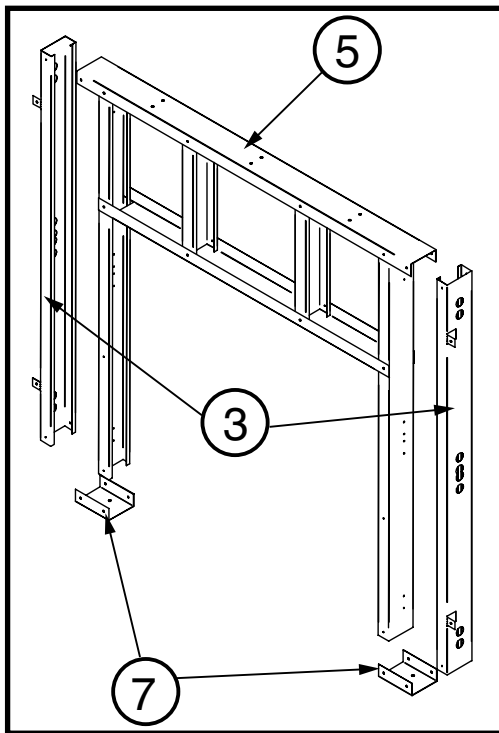
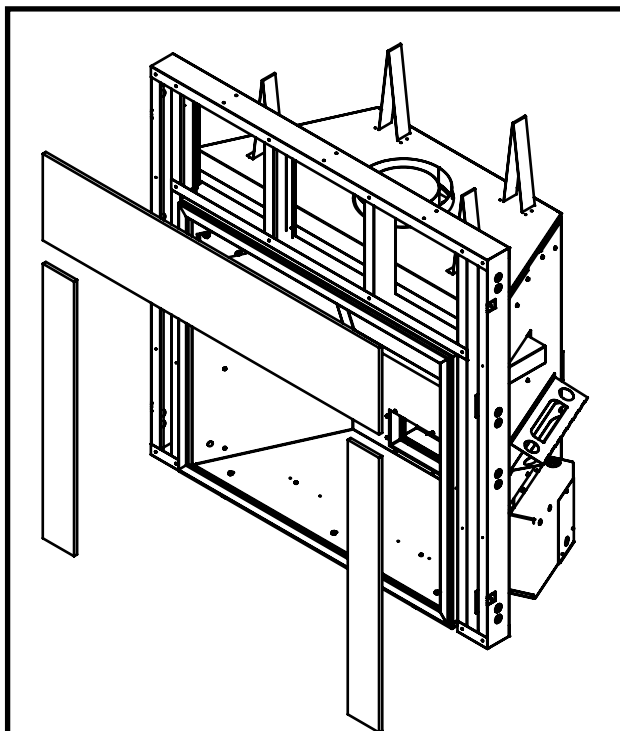

Figure 20: Outer studs.
Figure 22: Installing non-combustible board.
- Attach at the fastening points through the access holes in the outer side studs, ensuring that the assembly is parallel to the unit. (item 3 in Figure 20).
- 4. Secure the frame assembly to existing framing through the stud header (5) and the stud plates (7).
- Use drywall screws to install the non-combustible board (Figure 22).